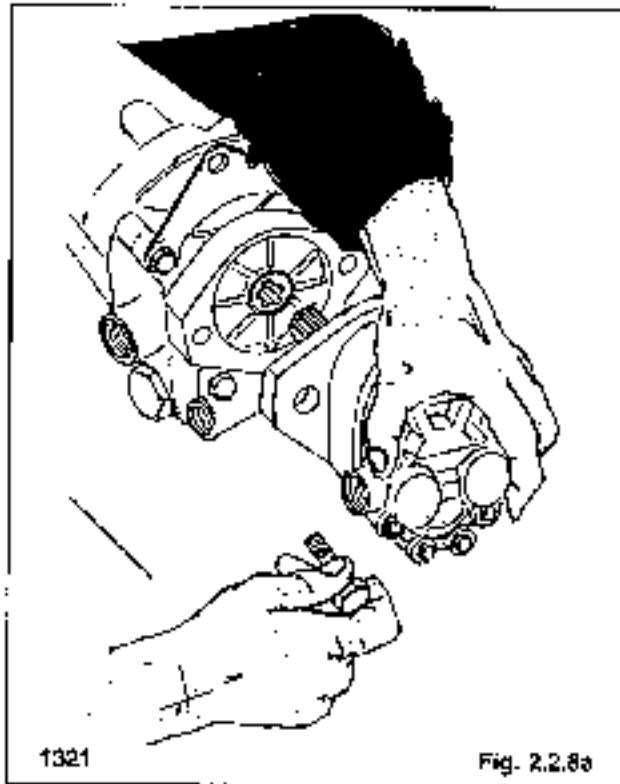

Fig. 2.2.8a
4. Remove the two hydraulic gear pump mounting bolts (fig. 2.2.8a).
5. Remove the hydraulic gear pump from the front hydrostatic pump (fig. 2.2.8a).